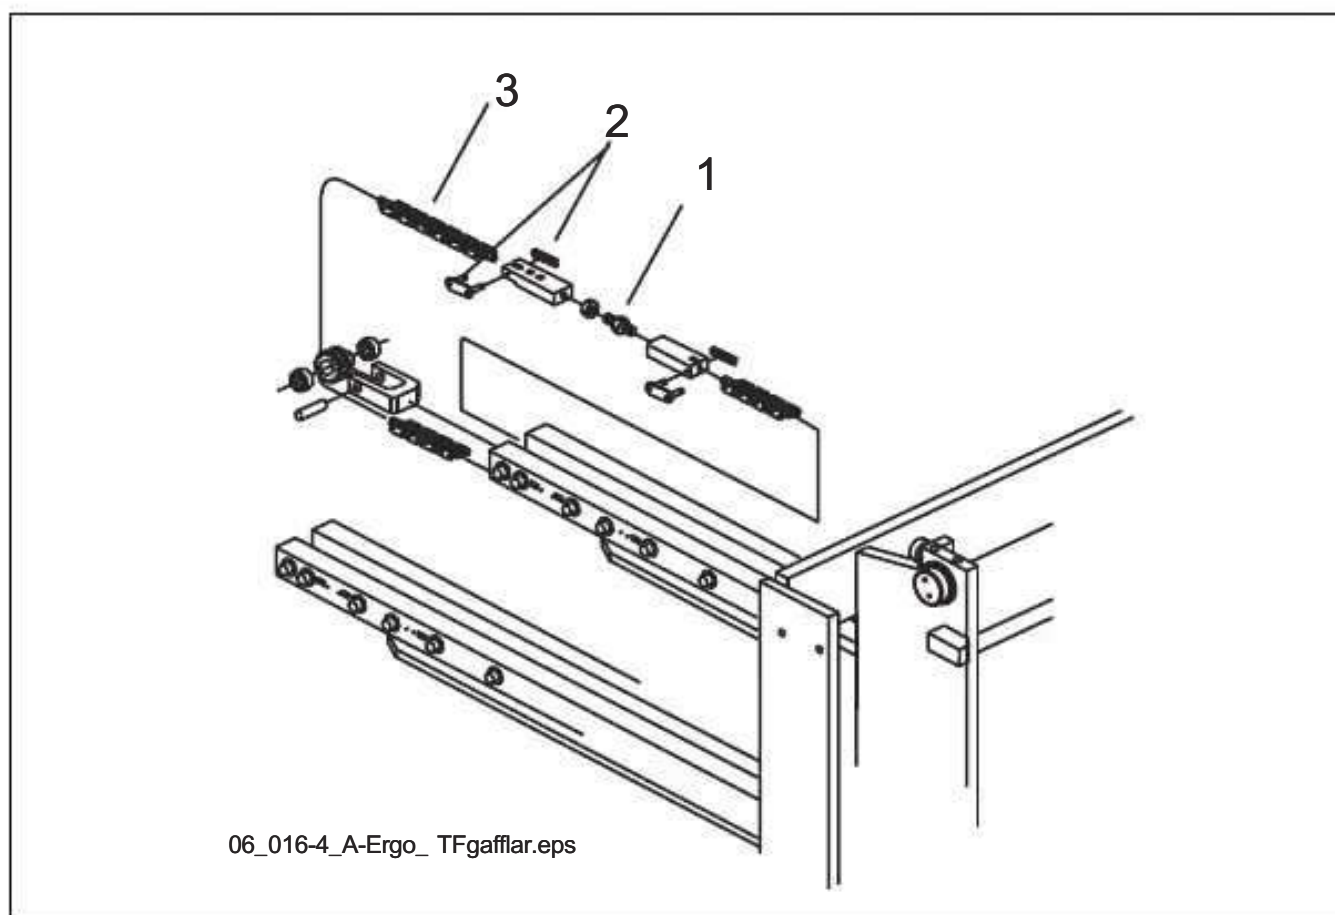

**Figure 6.32** Chain adjuster
8. Release the chain adjuster, pos. 1 figure 6.32.
9. Remove the chain lock, pos. 2, and remove the chains, pos. 3 figure 6.32.